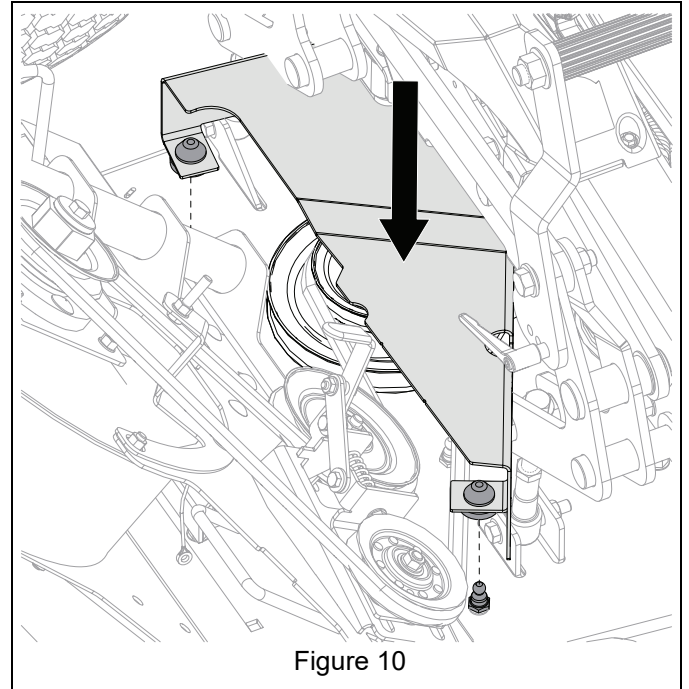

Figure 10
13. Install belt cover. See Figure 10.